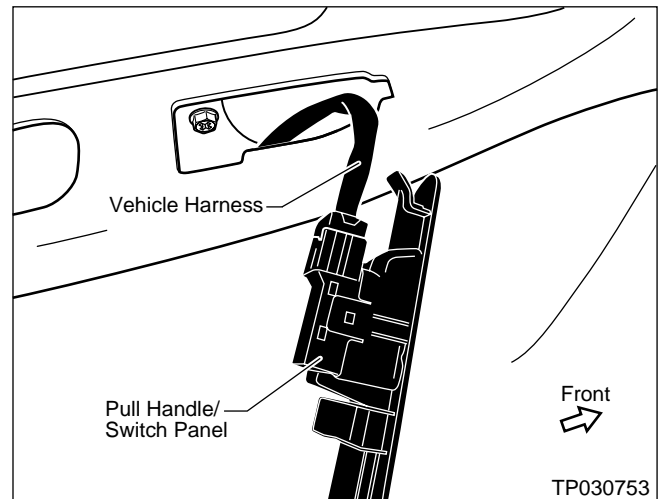

Figure 14
2. Disconnect the Vehicle Harness from the Pull Handle/Switch Panel (see Figure 14).